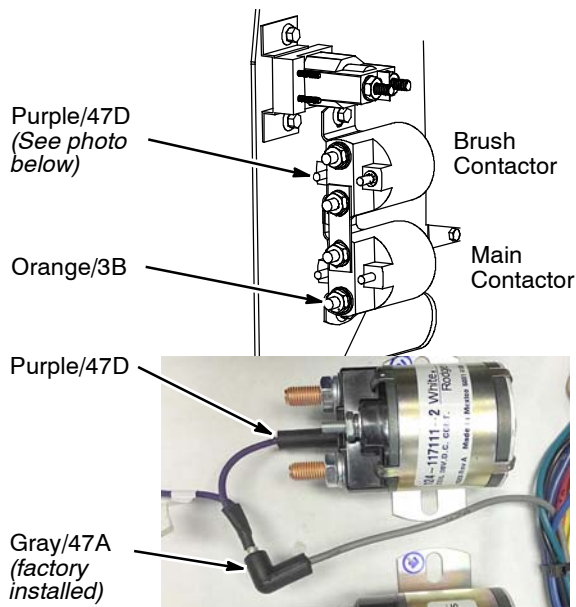

Fig. 11
3. Connect the remaining ec-H2O harness wires to the contactor terminals and main wire harness as shown (Figure 11).